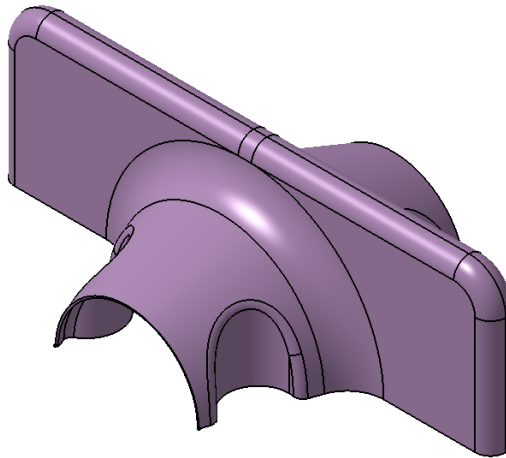
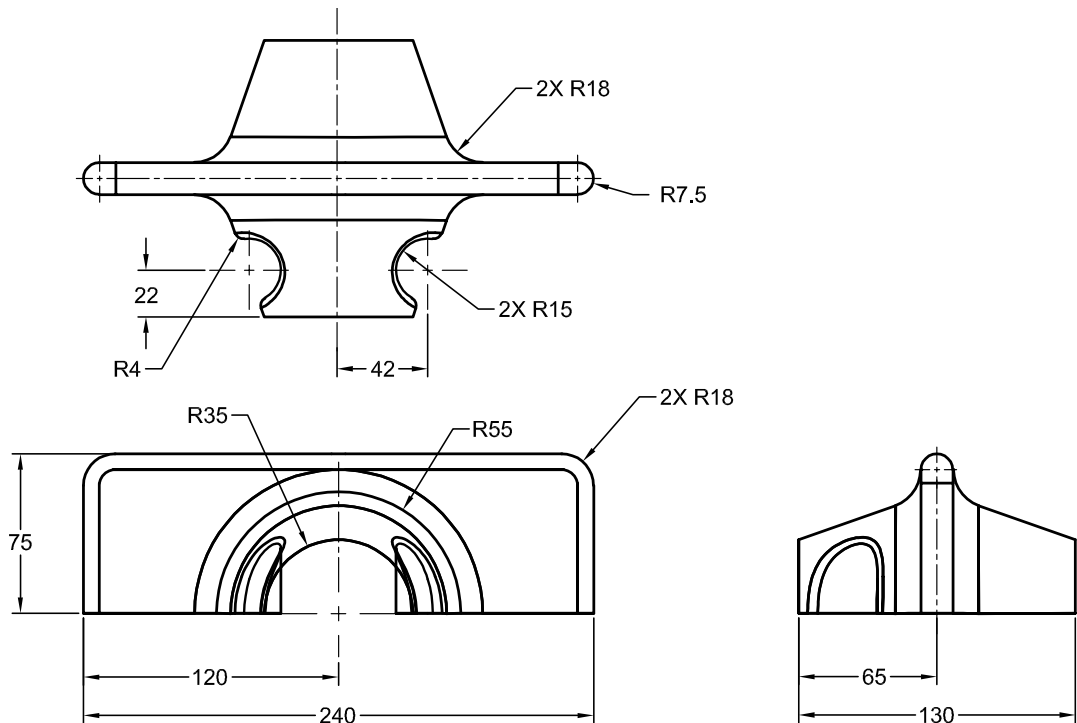
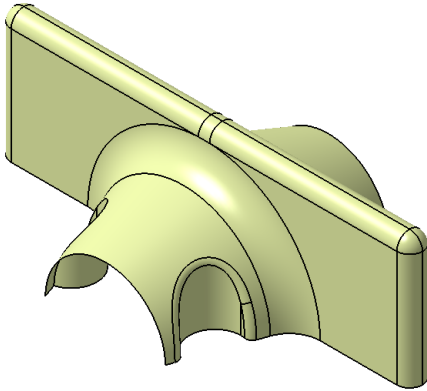

Figure 17-102 Model for Tutorial 2
Figure 17-103 Top, front, and right side views of the surface model
Figure 17-113 The final surface model after applying fillet
In this tutorial, you will create the model shown in Figure 17-102 in the **Generative Shape Design** workbench. Its orthographic views are shown in Figure 17-103.
1. Create a sketch on the front face of the extruded surface and a second sketch on an offset plane created at an offset distance of 65 mm from the front plane. Refer to Figure 17-103 for dimensions.
1. Select xy plane and draw the sketch for the extruded surface. For dimensions, refer to Figure 17-103.
2. Select the edges of the surface model and apply fillet to the selected edges, for dimensions refer to Figure 17-103. The model after applying fillet to the selected edges is shown in Figure 17-113.